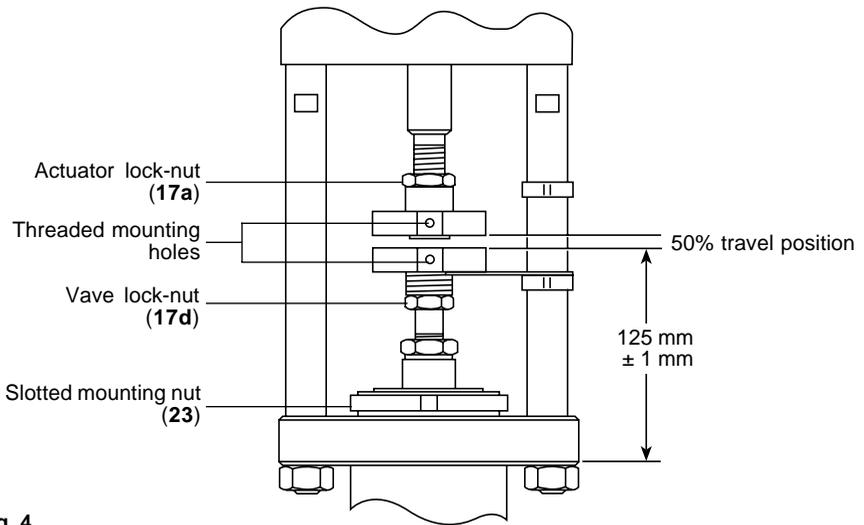

Fig. 4
- Remove the coupling locking screws and nuts (17e) and anti-rotation plate (19) and valve half-coupling (17c).
- Screw the actuator half-coupling lock-nut (17a) and actuator half-coupling (17b) onto the actuator spindle (7) until it is flush with the bottom of the spindle whilst ensuring the M6 threaded mounting hole is facing the front of the valve (see Fig. 4).
- Remove the pillar nuts (21) and remove the mounting plate (18).
- Remove the slotted mounting nut (23).
- Fit mounting plate (18) over the threaded spigot of the valve bonnet and align with axis of the valve.
- Refit the slotted mounting nut (23) and tighten to the recommended tightening torque (see Table 1).
- Screw the half coupling (17c) onto the valve spindle. Adjust the valve half-coupling position so that it is positioned 125 mm ± 1 mm above the actuator mounting face, with the M6 threaded mounting hole facing the front of the valve (Fig. 4).